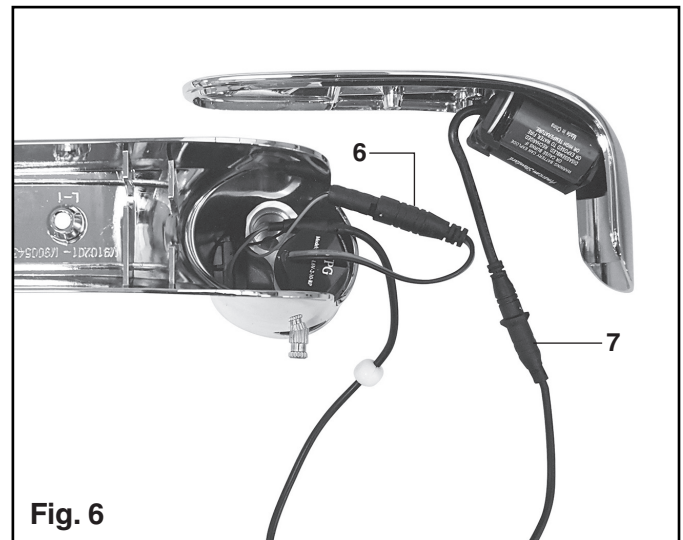

Fig. 6
FOR FAUCETS PURCHASED AFTER OCTOBER 2019 (FIG. 6)
1. Remove COVER SCREW (1) and lift COVER (15) off.
2. Disconnect SENSOR CABLES (6) and (7) from the BATTERY and SOLENOID VALVE. (Fig. 6)
1. Remove the COVER SCREW (1).
2. Remove the COVER (15).
3. Disconnect the BLACK POWER SUPPLY CONNECTOR (7) and reconnect. Fig. 6.
4. While the SENSOR CONTROL LED (9) is blinking slowly, place your hand 1 - 2 in. (25.4-50.8mm) in front of the sensor.
6. Once the SENSOR CONTROL LED (9) begins to blink again, remove your hand from the detection zone. When the flashing stops, the detection distance is set.
7. Reassemble the COVER (15) and secure it with COVER SCREW (1).